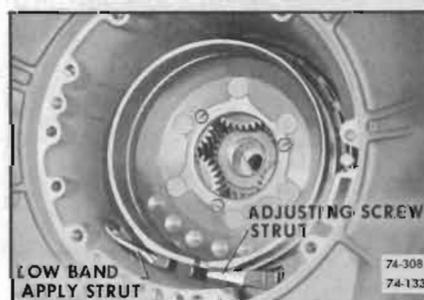

Figure 74-308
4. Install low band apply strut and band adjusting screw strut. After both struts have been installed, tighten low band adjusting screw enough to prevent struts from falling out. See Figure 74-308.